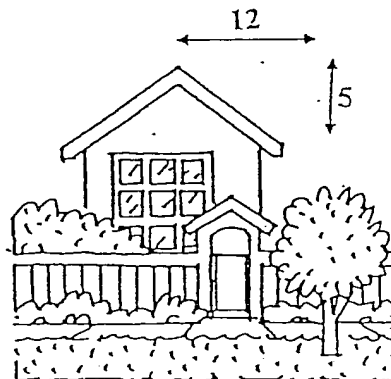

Figure 2
- ☐ Slopes should have a minimum vertical rise of 5 inches for every 12 inches of run (Figure 2).